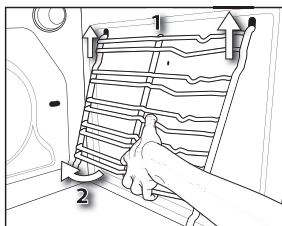

Fig. 5
2. To remove the grilles, lift the up (1) and turn them (2) as shown in fig. 5.